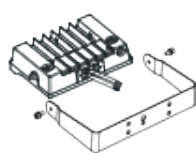

figure 8.1
8.1 Install slip fitter mount (AM) through yoke mount (FM) supporter(suitable for 15W-150W)(b=AF2/AF1)
Step 1: pass the core wire through the hole of the FM support, and then tighten hexagon socket screw. (Figure 8.1)